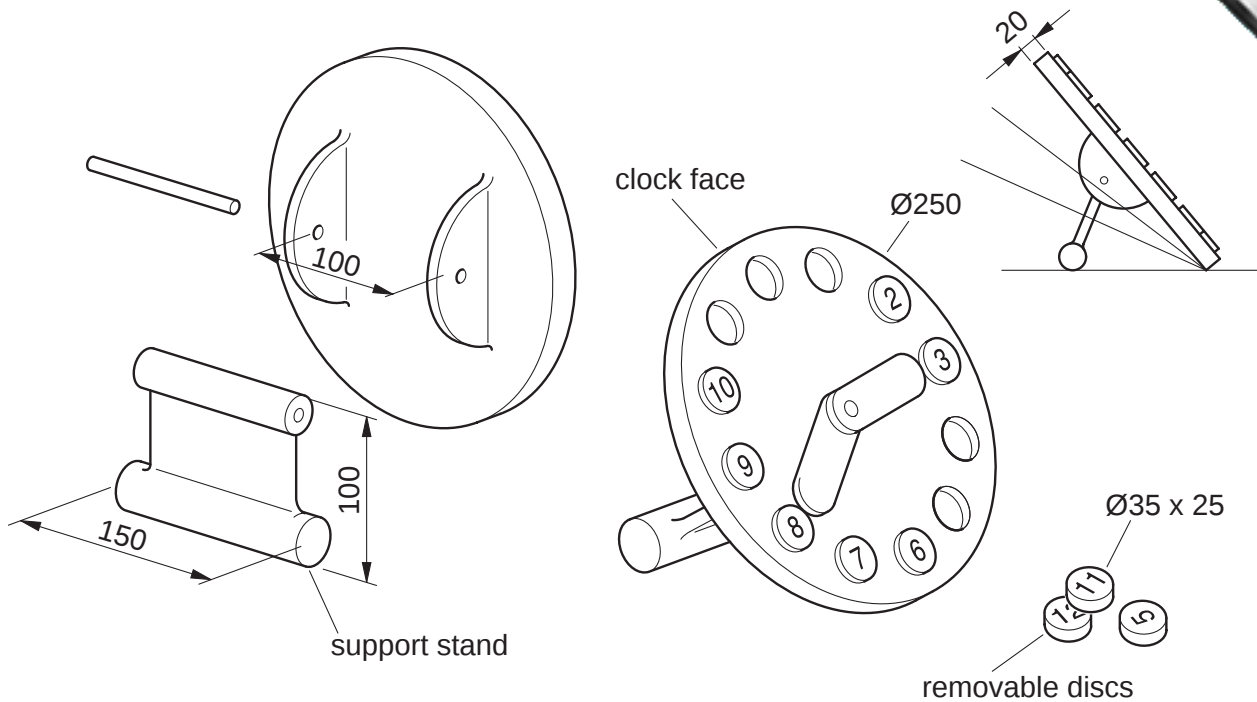

Fig. 8
- 16 Fig. 8 gives details of a teaching clock. It is made up of three main parts, a clock face, number discs and a support stand.